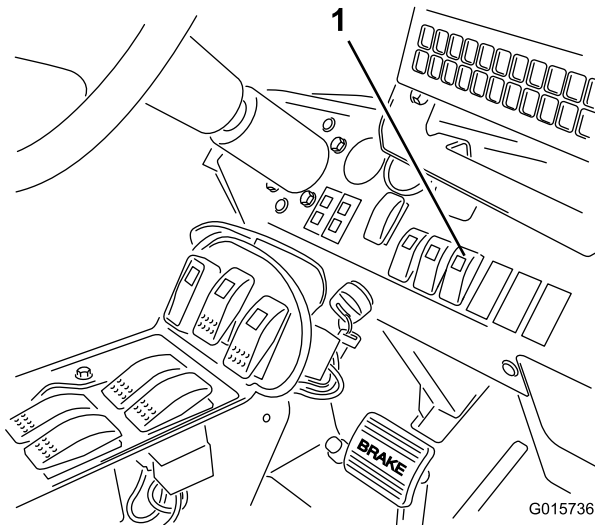

Figure 23
4. Press the sonic boom switch on the dashboard to the Auto position (Figure 23).